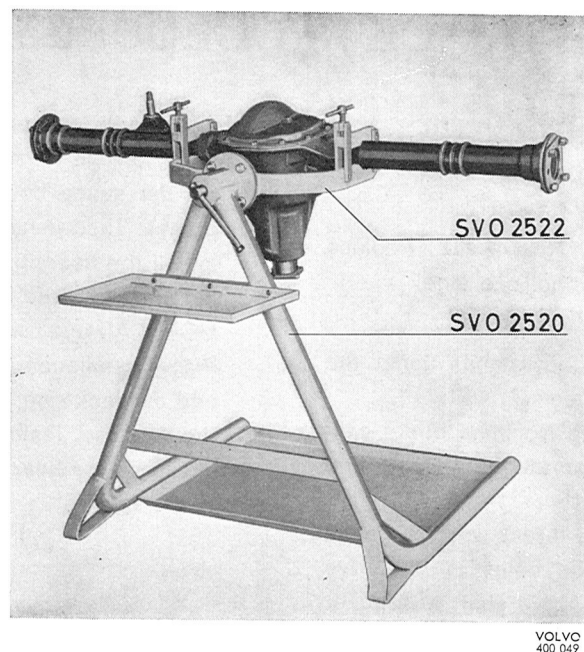

Fig. 4-142. Stand and fixture for rear axle
- 2520 Stand (Fig. 4-142)
- 2522 Fixture for rear axle (used with stand 2520 for work on the final drive, Fig. 4-142)
1. Place the rear axle in fixture 2522, see Fig. 4-142.